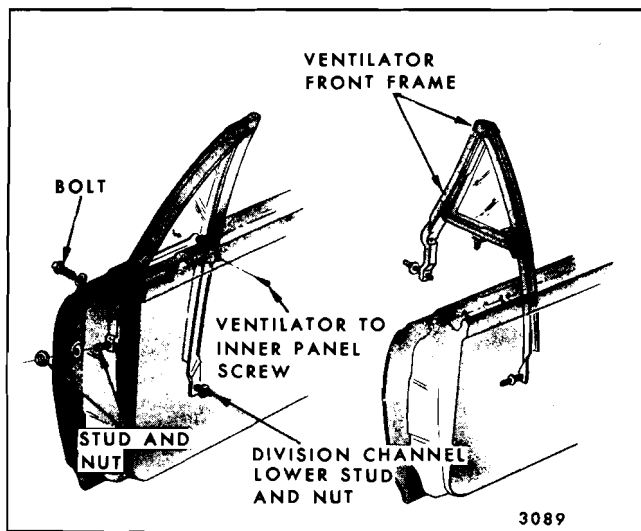

Fig. 6-76—Front Door Ventilator Removal - "Z" Styles
5. Push ventilator lower adjusting stud free of inner panel and move ventilator rearward until front frame clears hinge pillar (See Figure 6-76).
6. Turn ventilator 90 degrees, as shown in Figure 6-76, and remove assembly from body.